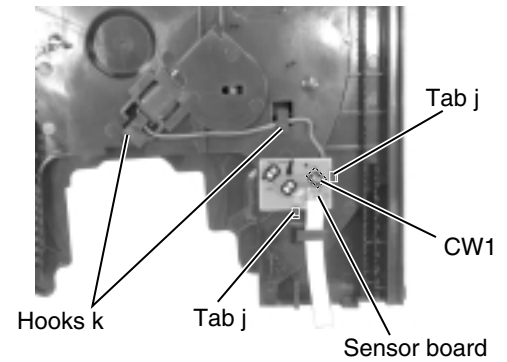

Fig.31
■ Removing the sensor board / the tray motor (See Fig.31 to 33)